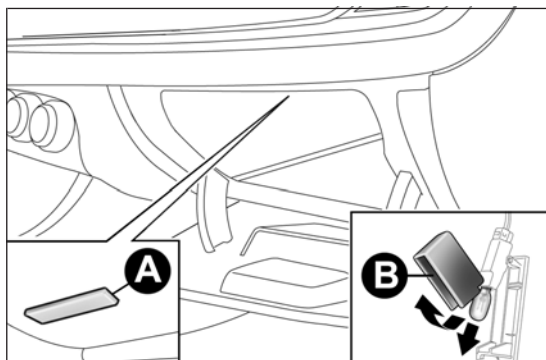

fig. 156
- open the glove compartment and extract the light A fig. 156;